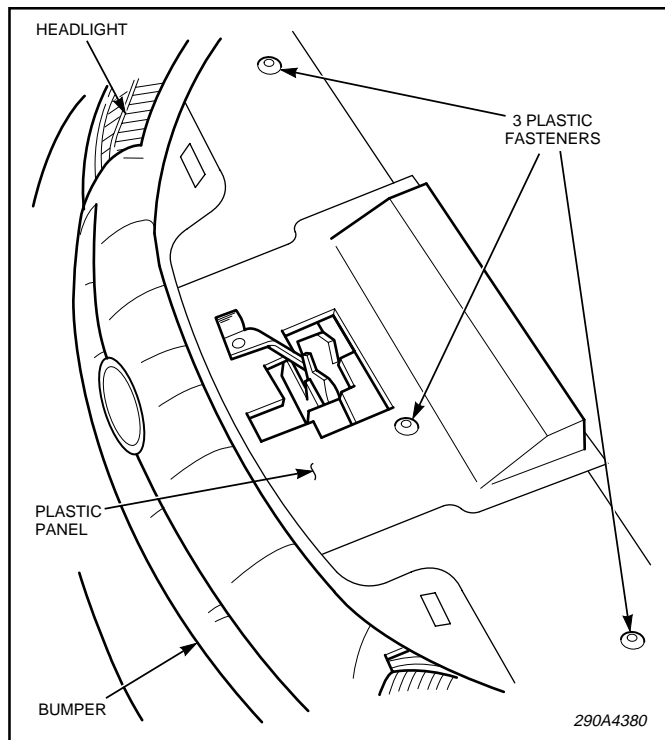

Figure 1.
1. Raise the vehicle hood. See figure 1. Locate the plastic panel between the radiator crossbar and the grill fascia.
7. See Figure 1. Replace the plastic panel (removed in step 2) and secure in position using the previously removed plastic quarter-turn fasteners.